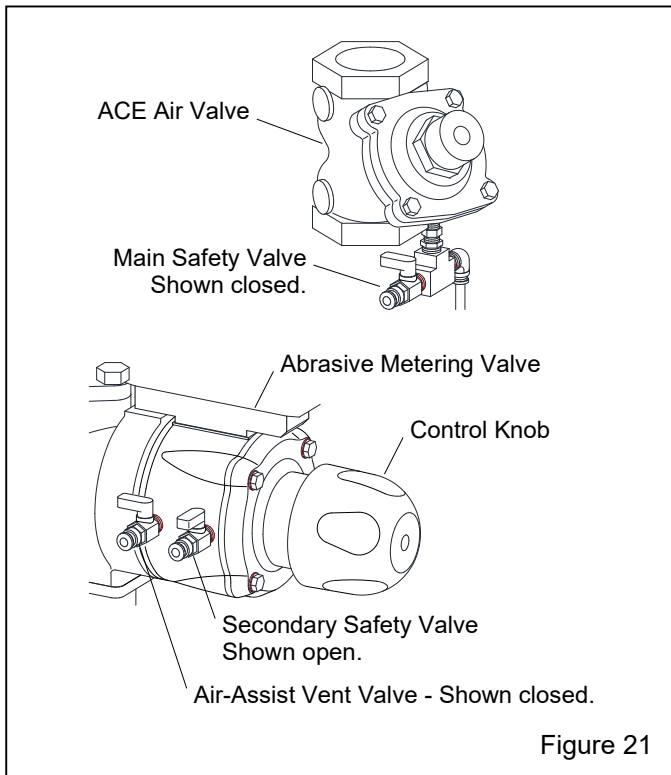

Figure 21
4.10 Operation and Function of Safety Valves and Vent Valves – Figure 21
4.10.1 Safety valves prevent the operation of the blast station when it is not being used, and when necessary, allows the pot tender or supervisor to stop blasting from the machine. The valves are open when the valve lever is in line with the valve's body, as shown in Figure 21.
4.10.2 Main Safety Valve: The main safety valve is located on the ACE Air Valves, as shown in Figure 21. Opening the safety valve prevents accidental operation of the blast machine. Always open safety valves during work breaks, when an operator station is not being used, and at the end of the work shift.